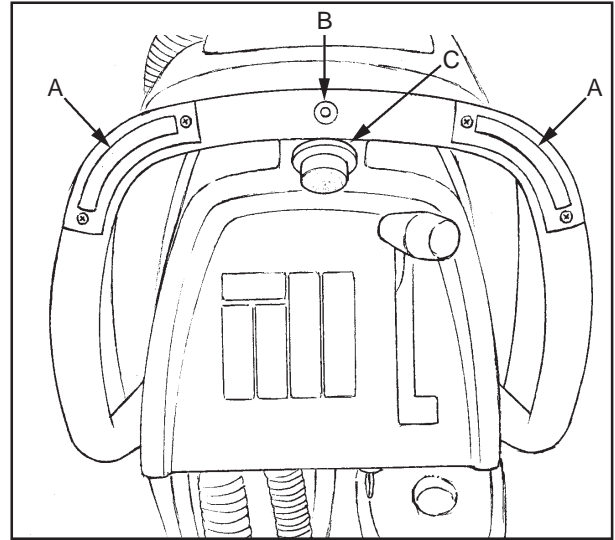

Figure 28
- When either the left or right forward/reverse switches (figure 28, item A) are pushed in, the machine will go forward ("L" models only).
- Control the speed of traverse by using the traverse speed control knob ("L" models only) (figure 28, item C).
- To reverse the machine, push in the white reverse switch (figure 28 item B) and either the right or left forward/reverse switch (figure 28 item A) at the same time ("L" models only).